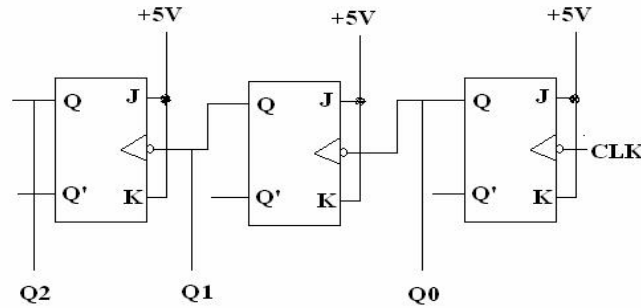

Fig.9: 3-bit Ripple Counter
We used KL-26007 module (block c), which contains three separated JK flip flops to implement the 3-bit (divide by eight) Ripple counter shown in Figure.9. We connected CLK input to Pulser switch. Connected counter outputs (Q2,Q1, Q0) to indication lamps. We applied clock pulses to CLK input. And observed and recorded the outputs in Table. (A). We applied counter outputs (Q2, Q1, Q0) to **D1 display** inputs. And observed and recorded the outputs in Table. (B).